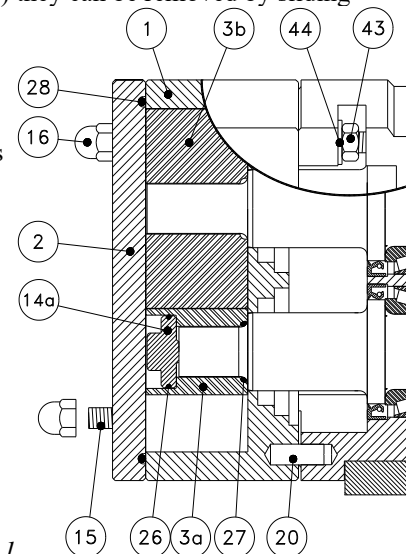

Figure 4.4.1
Loosen the **Stud Nuts** (item 43 in Figure 4.4.1). Remove the **Rotor Housing** by pulling on the ports or by tapping gently with a rubber mallet. Do not rock the **Rotor Housing** back and forth excessively. The seals may break. The **Seal Retaining Rings**, the **Bolts**, the **Stationary Seal Faces**, and the **Stationary Seal O-Rings** will all come off with the **Rotor Housing**. Unscrew the **Bolts** to remove the **Seal Retaining Rings**, the **Stationary Seal Faces**, and the **Stationary Seal O-Rings**. Slide the **Rotating Seal Faces** and the **Rotating Seal O-Rings** off the shafts. To avoid damage, handle and store the loose **Stationary Seal Faces** and **Rotating Seal Faces** so that their lapped sealing surfaces do not get scratched. If not being replaced, the **Drive Collars** may remain on the shafts, otherwise loosen the set screws and slide them off the shafts. UNIBLOC-PD 500 Series may use wear sleeves. See section 4.4.4.1 sketch.
Remove the **Shaft O-rings** (item 27 in Figure 4.4.1) located behind the shaft splines. Use two long flat head screwdrivers 180° apart to pry the **Shaft Sleeve** out of the **Rotor Housing**. Use razor blade or sharp flat head screwdriver to remove the **Rotating Seal Face** from the **Shaft Sleeve**. Remove **Stationary Seal Face** from **Seal Retaining Ring** by hand.
Place the **Rotating Seal O-Ring** on the stepped side of the **Rotating Seal Face** and lubricate. While aligning the **Rotating Seal Face** pin slots with the Shaft sleeve pins, hand press the **Rotating Seal Face** into the **Shaft Sleeve** until fully seated. Lubricate the **Shaft Sleeve O-Ring** located in the inner diameter of the **Shaft Sleeve**. Aligning the pin slots on the **Shaft Sleeve** with the pins on shaft (item 90 in Figure 4.4.1), hand press the Shaft Sleeve (with Rotating Seal installed) evenly until seated and spring tension can be felt. Spring tension will be set by installation of rotor onto shaft.
Disconnect the flush tubing from the flush housings (55). Loosen the set screws (D) by inserting an allen wrench into the flush housing port holes. Loosen the stud nuts (item 43 in Figure 4.4.1). Remove the rotor housing (1) by pulling on the ports or by tapping gently with a rubber mallet and lay it rotor cavity down so that the seals face up. Do not rock the housing back and forth excessively or let it come in contact with the shaft splines. The seals may break. The entire seals with the flush housings will come off intact with the rotor housing. Unscrew the bolts (32) to remove the flush housings (55), the lip seals (56), and the flush housing o-rings (37). The remaining seal components may now be removed. To avoid damage, handle and store the loose seal nose rings (B) and the mating rings (A) so that their lapped sealing surfaces do not get scratched. To remove the lip seals (56), place the flush housings so that they are supported at the bolt holes not at the o-ring (37) location. This can be done by placing the flush housings, after all other seal parts have been removed, back into the rotor housing seal bores. Push or tap the lip seals with a tube to remove them.
Disconnect the flush tubing from the **Flush Housings**. Loosen the **Drive Collar** set screws by inserting an allen wrench into the flush housing port holes. Loosen the stud nuts (item 43 in Figure 4.4.1). Remove the rotor housing (item 1 in Figure 4.4.1) by pulling on the ports or by tapping gently with a rubber mallet and lay it rotor cavity down so that the seals face up. Do not rock the housing back and forth excessively or let it come in contact with the shaft splines. The seals may break. The entire Seal Package, with the Flush Housings attached, will come off with the rotor housing. Unscrew the **Bolts** to remove the **Flush Housings**, the **Stationary Seal Faces (secondary)**, **Flush Housing O-Rings**, and **Stationary Seal O-Rings (secondary)**. The remaining seal components may now be removed. To avoid damage, handle and store the loose Seal Faces so that their lapped sealing surfaces do not get scratched. Remove the **Stationary Seal Faces (primary)** by pulling them out of the rotor housing seal bores. Remove the **Stationary Seal Faces (secondary)** by pushing them out of the **Flush Housings**.
Loosen the stud nuts (item 43 in Figure 4.4.1). Remove the rotor housing (item 1 in Figure 4.4.1) by pulling on the ports or by tapping gently with a rubber mallet. The entire seal with all components will come off attached to the rotor housing. Remove the **Bolts** and **Seal Retaining Rings**. Pull the **Double O-Lip Seal Cartridges** out of the rotor housing bores. If optional sleeve is used, sleeve will be removed with cartridge.
If using a flushing system as discussed in section 3.3, disconnect it from the **Flush Housings**. Loosen the stud nuts (item 43 in Figure 4.4.1). Remove the **Rotor Housing** by pulling on the ports or by tapping gently with a rubber mallet. All seal parts will come off with the housing. Remove the **Flush Housings** by unscrewing the **Bolts**. The **Retaining Ring O-Rings** and **Seal O-Rings** can now be removed.